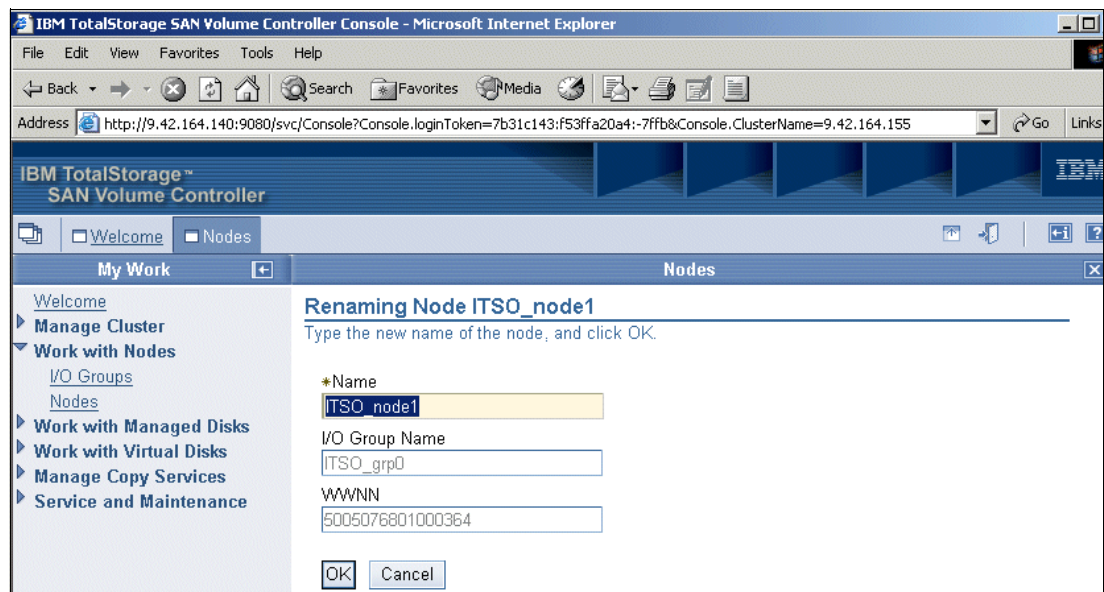

Figure 9-24 Renaming a node
2. On the Renaming Node *nodename* panel (where *nodename* is the node you selected in the previous step), type the new name you want to assign to the node. Click **OK**. See Figure 9-24.